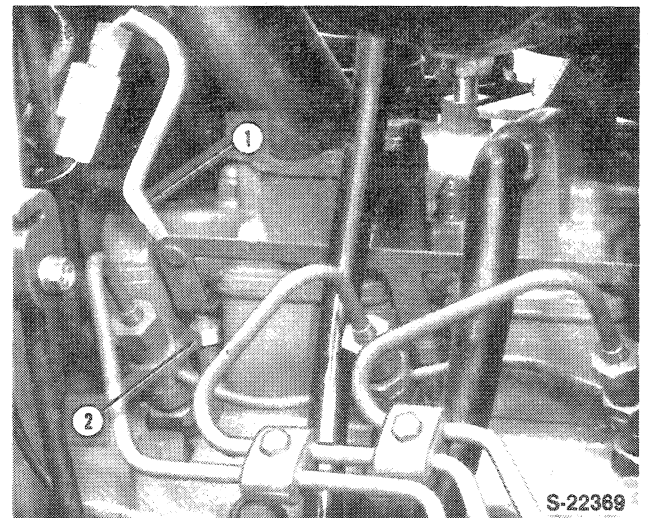

Figure 5
- 8. Remove the glow plug wire connectors and remove the glow plugs, Figure 5.